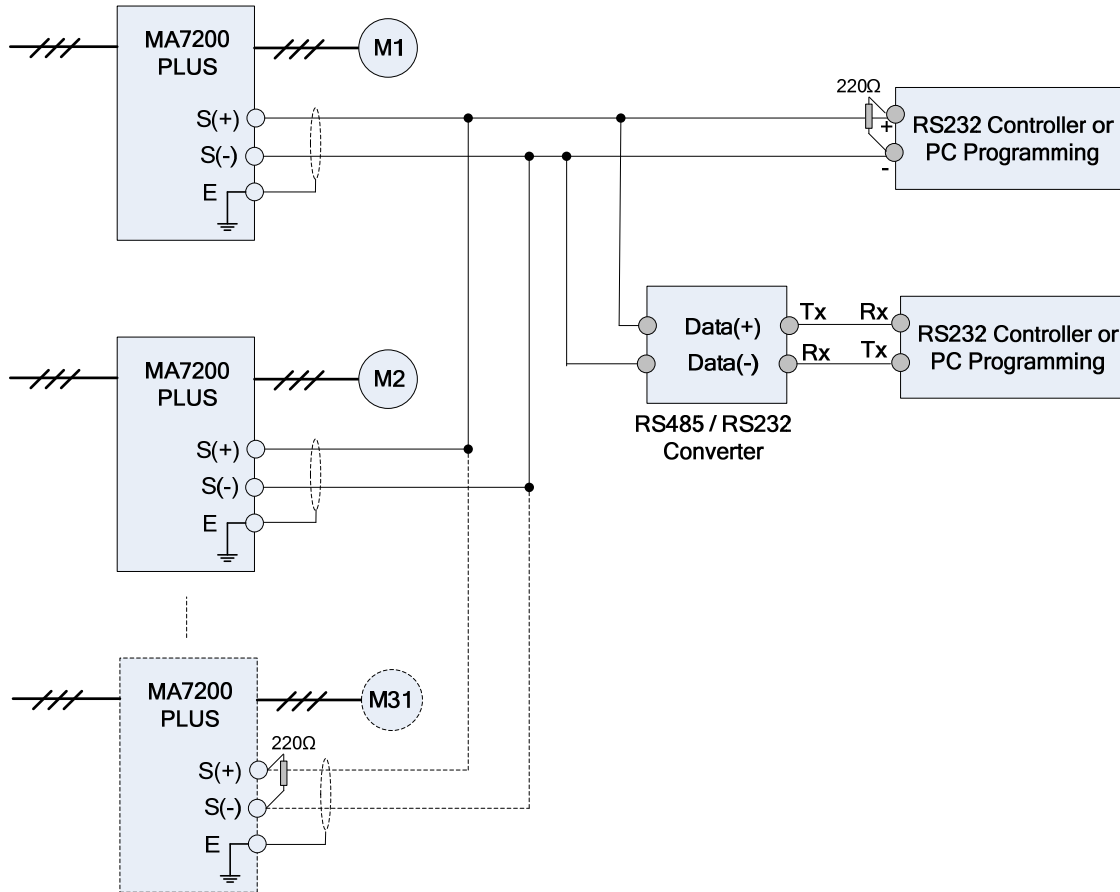

Fig. 4.2.5 MODBUS Interface Wiring
The following Fig. 4.2.5 shows the wiring interface for the MODBUS protocol.
1. A Host Controller with an RS485 interface can communicate with the MA7200 PLUS directly. If the Host Controller does not have an RS485 port but does have an RS-232 port (such as PC programming), an RS485 / RS232 converter can be used to connect between the Host Controller and the MA7200 PLUS as shown in Fig. 4.2.5.